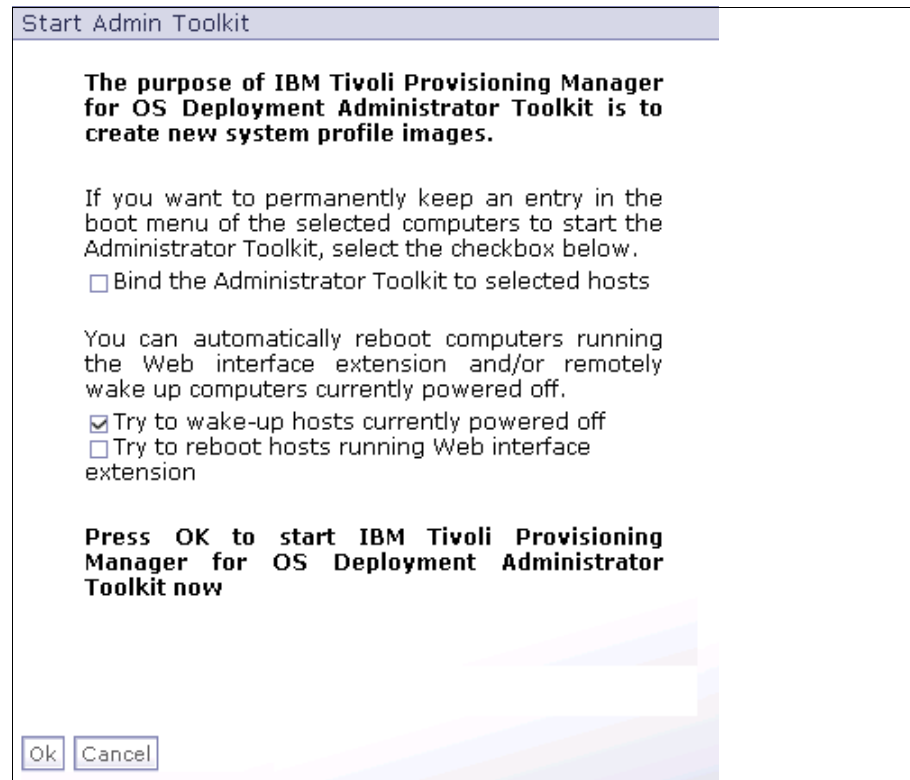

Figure 3-7 Admin Toolkit Options
- Next, take the default setting and click the **OK** button on the **Start Admin toolkit** options screen as shown in Figure 3-7.